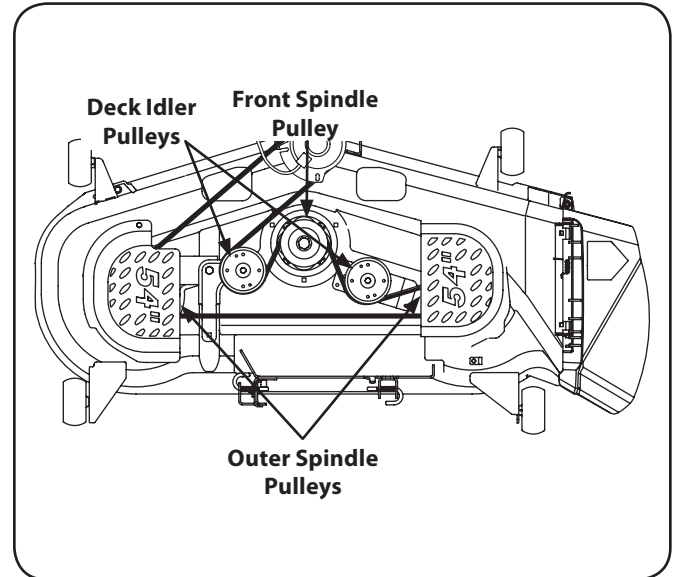

Figure 7-8
5. To place the new belt begin by routing the belt around the two outer spindle pulleys, then around the front spindle pulley as shown in Figure 7-8.
6. Route the belt around the two deck idler pulleys as shown in Figure 7-8.